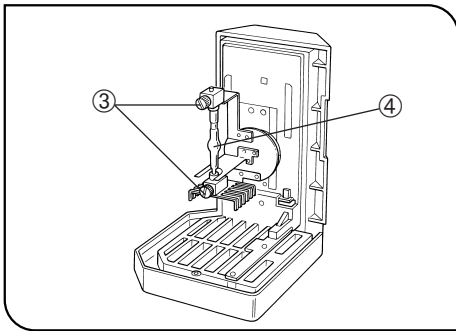

Fig. 12
1. Loosen the socket clamping screw ① using the Allen screwdriver.
- ★ **To prevent malfunction, do not hold the lamp housing by the centering knobs ②.**
3. Place the socket section upside down as shown in Fig. 12.
- Ⓞ The lamp housing is equipped with the holder for transportation in the factory shipment condition or with an old burner when the burner is replaced. Remove the holder or old burner by loosening the two burner holding screws ③.
4. Attach the + (positive) pole of a specified mercury burner ④ to the fixed mount on the upper side, then the - (negative) pole to the mount on the lower side.
5. Attach the socket section with burner to the original position and tighten the socket clamping screw ①.